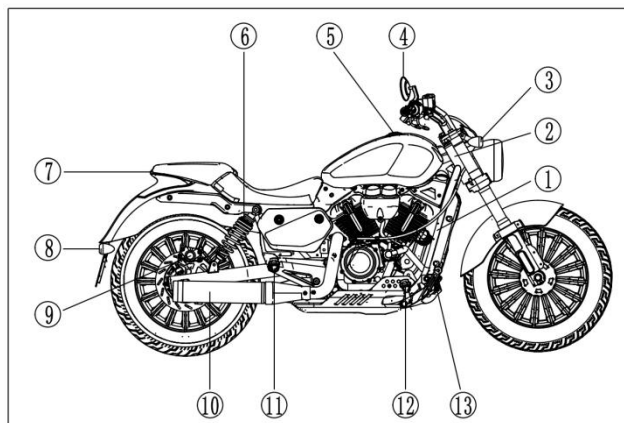

Figure 2
2. Right vehicle body (Figure 2)